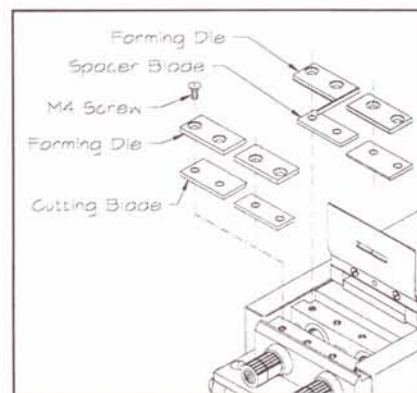

Figure 5
2. Remove the existing die set and install the new set as shown in figure 5.